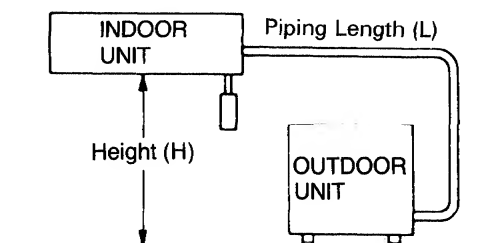

Fig. 2
- install unit within the maximum height (H) up or down of outdoor unit and within a total piping length (L) from outdoor unit stipulated in Table. 1. Fig. 2